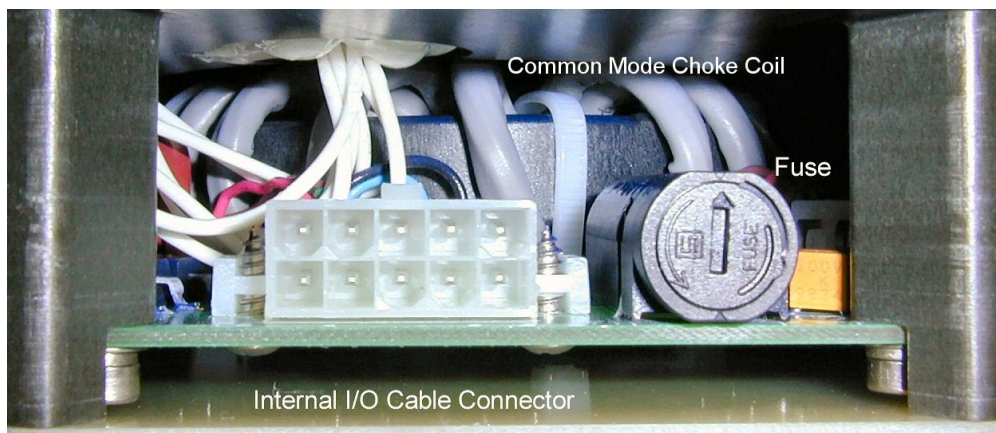

Figure 48. Fuse
3. The fuse is located on the bottom of the end-cap (Figure 48). Use a small flat-blade screwdriver to open the fuse housing. Turn the end 180° counter-clockwise to open the fuse housing.
The external battery case, battery side end-cap is different than the standard Long Ranger / QuarterMaster end-cap. Figure 48 shows the standard Long Ranger / QuarterMaster end-cap. The common mode choke coil is very visible behind the internal I/O cable connector and fuse. The common mode choke coil is NOT installed on the battery side end-cap.